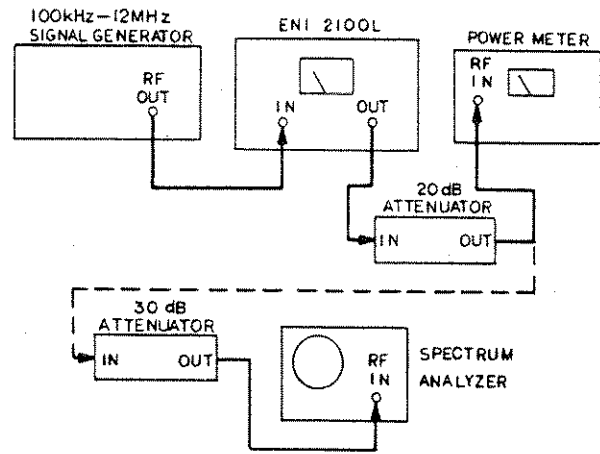

Figure 4-4.
- 3.) Reconnect the equipment as shown in Figure 4-4, then proceed as follows: